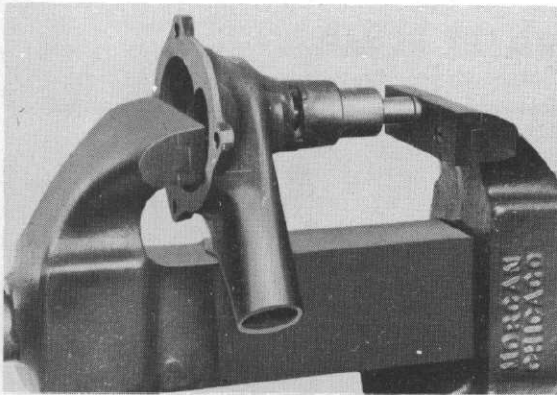

Fig. 5
- Step 1—Install the shaft as shown in Figure 5.